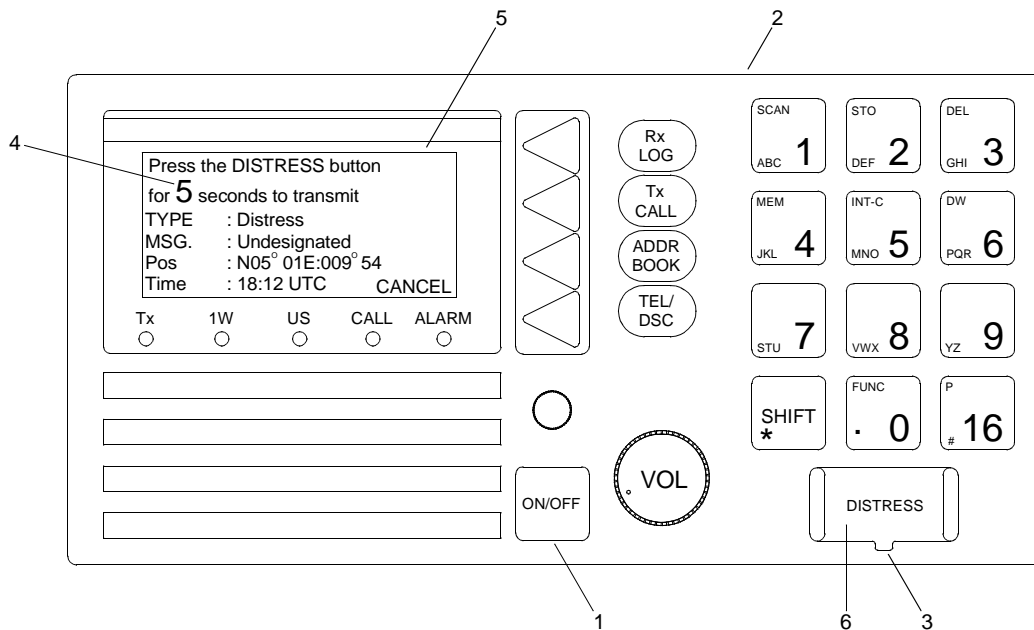
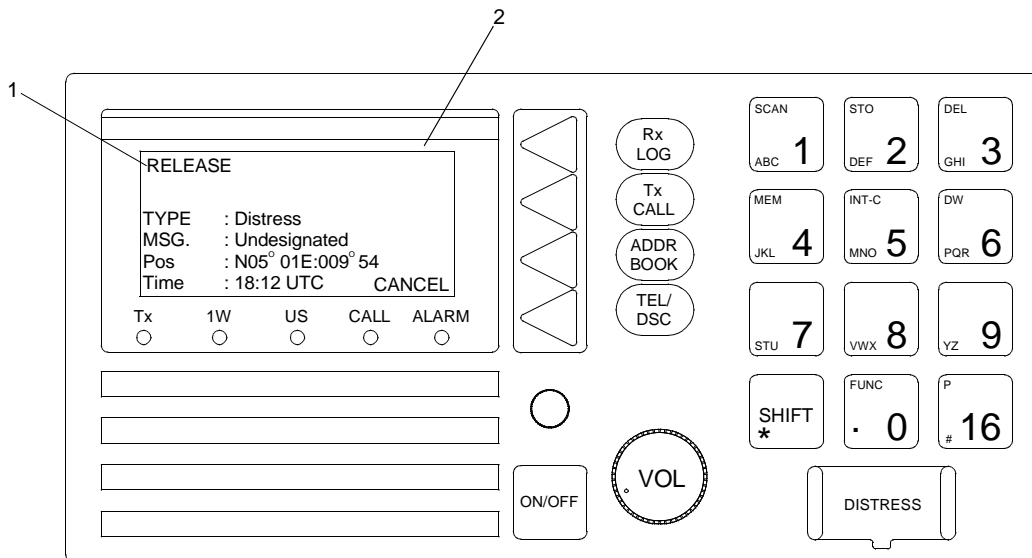

Figure 1. VHF-DSC Transceiver
Figure 2. Release Distress Button Message
1. Press the ON/OFF button (figure 1, item 1) while the VHF-DSC transceiver (figure 1, item 2) is off or in the standby mode.
2. Open the DISTRESS button cover (figure 1, item 3).
A countdown indicator (figure 1, item 4) appears in the LCD display (figure 1, item 5) indicating the number of seconds remaining to press the DISTRESS button (figure 1, item 6). The control unit also prompts the user when to release the DISTRESS button (figure 1, item 6) to transmit the distress call.
3. Press the DISTRESS button (figure 1, item 6) for 5 seconds or wait for RELEASE (figure 2, item 1) to appear in the LCD display (figure 2, item 2).